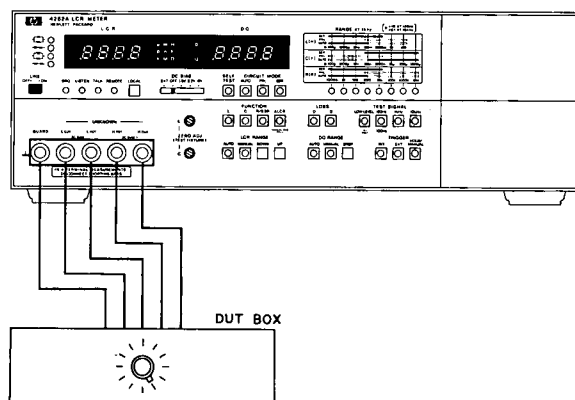

Figure 4-7. Offset Adjustment Test Setup.
5. Disconnect shorting bars from 4262A UNKNOWN terminals and connect Test Leads (HP P/N 16361-61605) between 4262A UNKNOWN terminals and 16362A DUT Box as shown in Figure 4-7.